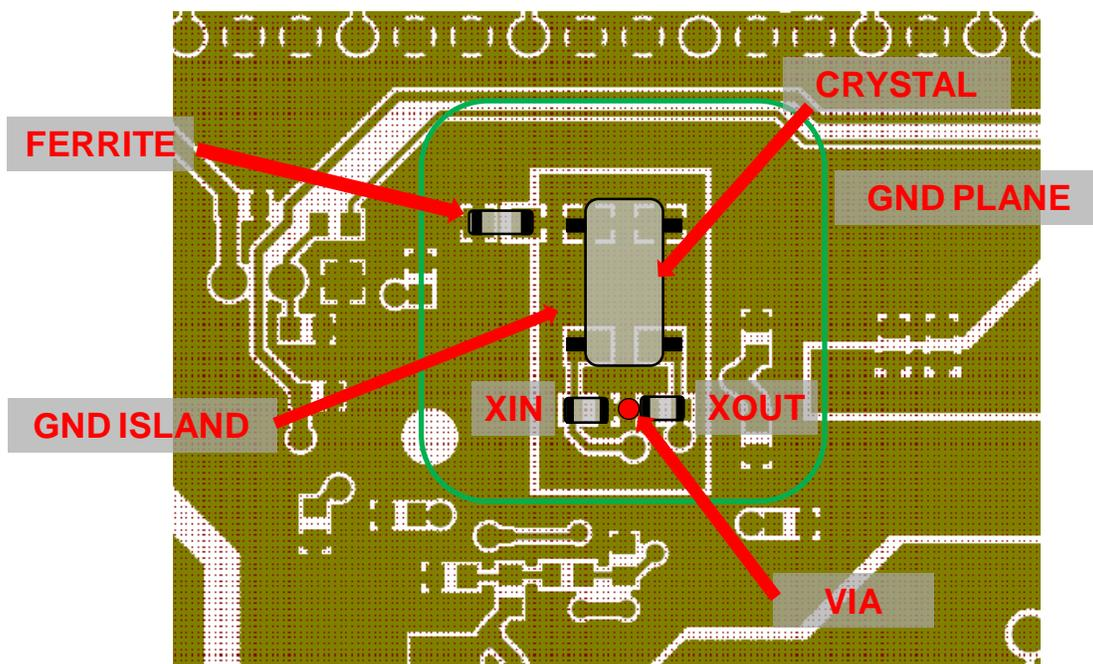

Figure 19: Separate GND Structure for the Crystal
5. The crystal and its load capacitors should be positioned adjacent to the 71M652X IC. Placing the crystal and its load capacitors on the bottom side of the board results in the shortest trace lengths. The crystal should have its own ground structure, as shown in Figure 19.